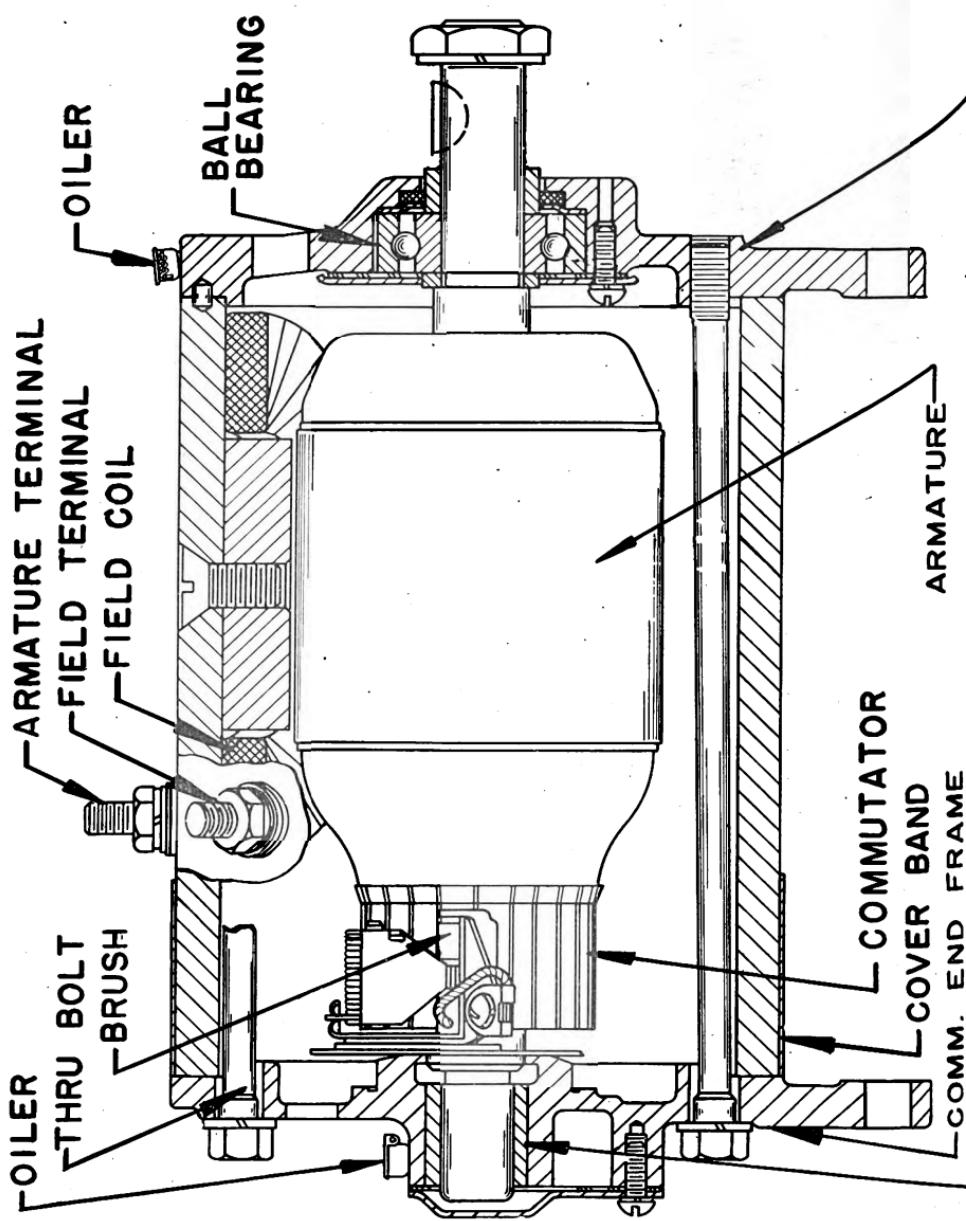

Figure 17. Battery-charging generator.
51. OVERHAULING BATTERY-CHARGING GENERATOR (fig. 17).